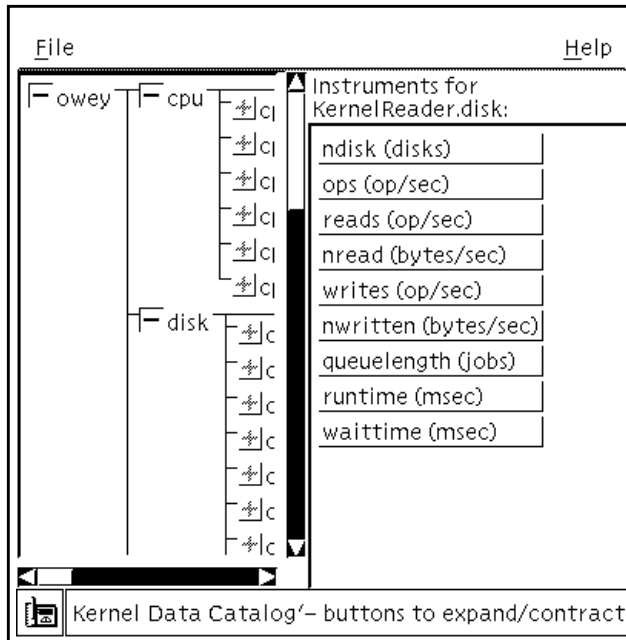
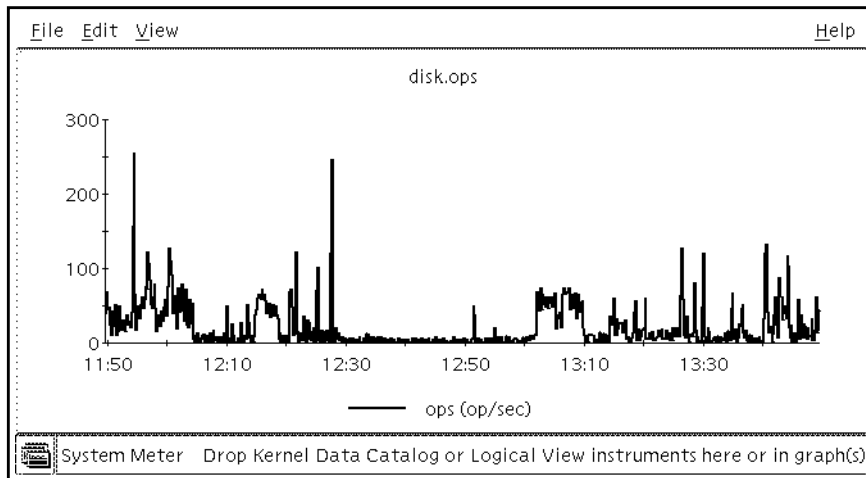

FIGURE 3-18 Kernel Data Catalog Console
FIGURE 3-19 System Meter Window of Disk Ops
The Kernel Data Catalog console displays the system performance parameters (see FIGURE 3-18). These parameters are displayed as *instruments* within the instrument panel of the Kernel Data Catalog. When you click a particular text of a component, a menu of available parameters (instruments) for that component is displayed in the instrument panel.
- Click the instrument (parameter) you want displayed, for example, `ops (op/sec)`, at the right of the display (see FIGURE 3-18).A System Meter window is created with a graph of the selected instrument (FIGURE 3-19).